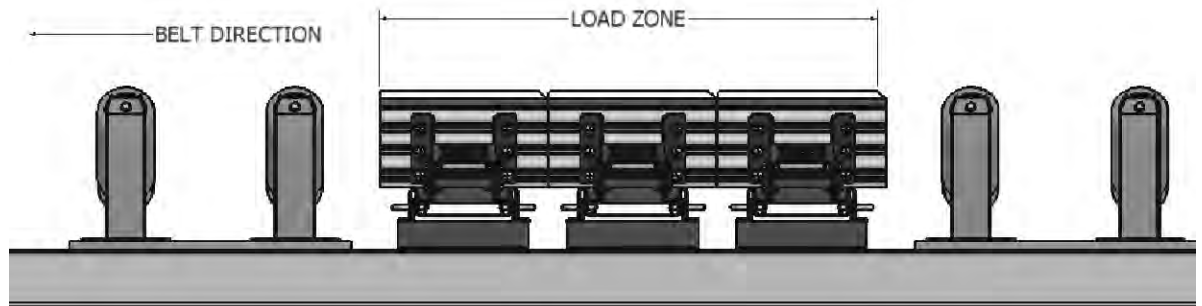

Figure 10.
- 1.) Always have a Troughing Idler of the same degree of trough as that of the Modular Impact Bed, just before the Modular Impact Bed (see Figure 10).